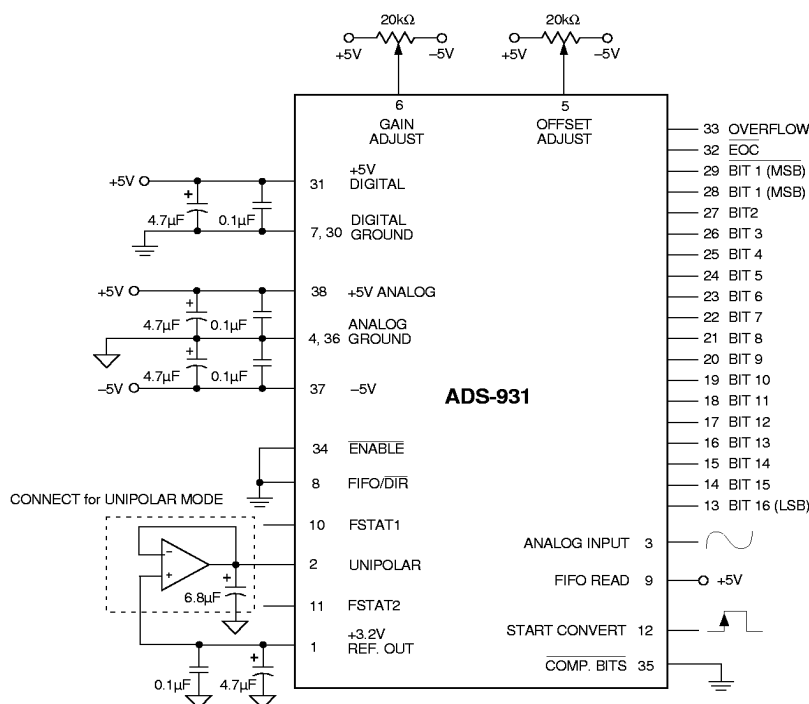

Figure 2. Bipolar Connection Diagram
- The ADS-931 achieves its specified accuracies without the need for external calibration. If required, the device's small initial offset and gain errors can be reduced to zero using the adjustment circuitry shown in Figure 2. When using this circuitry, or any similar offset and gain calibration hardware, make adjustments following warm-up. To avoid interaction, always adjust offset before gain. Tie pins 5 and 6 to ANALOG GROUND (pin 4) if not using offset and gain adjust circuits.
Connect the converter per Figure 2. Any offset/gain calibration procedures should not be implemented until the device is fully warmed up. To avoid interaction, adjust offset before gain. The ranges of adjustment for the circuits in Figure 2 are guaranteed to compensate for the ADS-931's initial accuracy errors and may not be able to compensate for additional system errors.